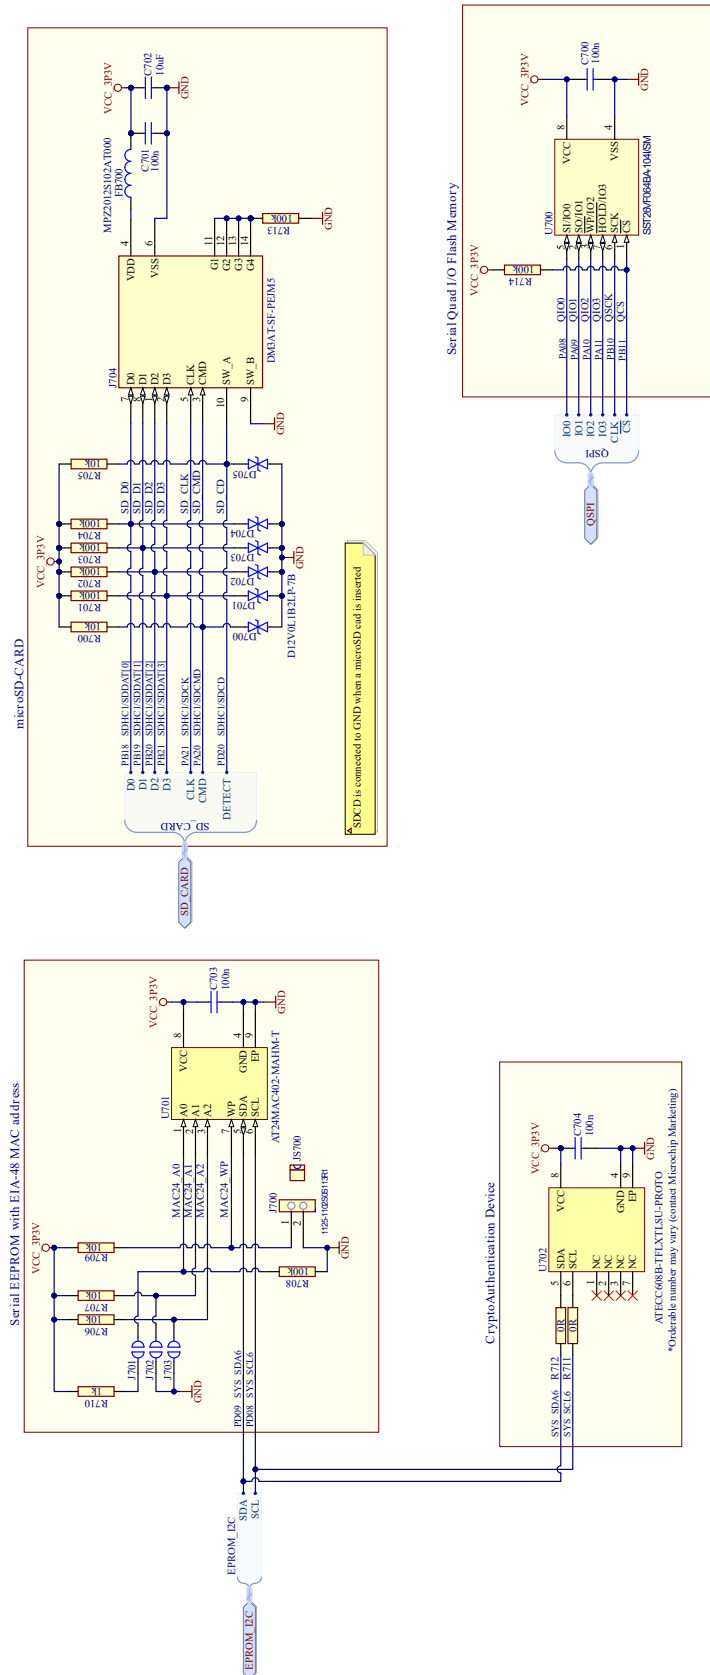

Figure 2-8. Ethernet and CAN Schematic
- Ethernet and CAN Schematic, Figure 2-8